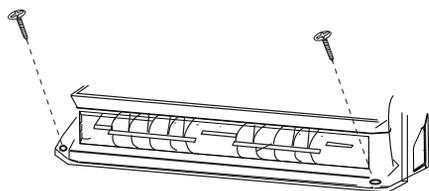

Fig3
- expansible screws to fix the unit on the floor. As figure 3 shown.